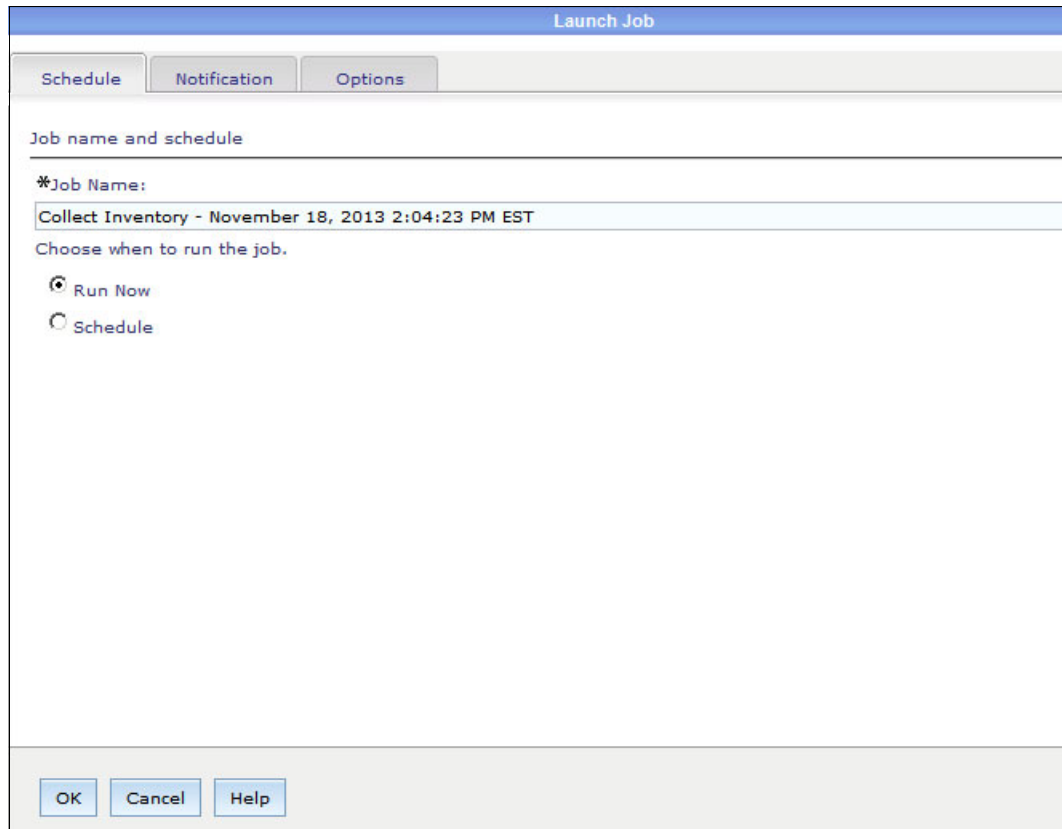

Figure 6-74 Run collect inventory
2. In the Launch Job window, to begin the inventory collection, select **Run Now** and click **OK**, as shown in Figure 6-74.